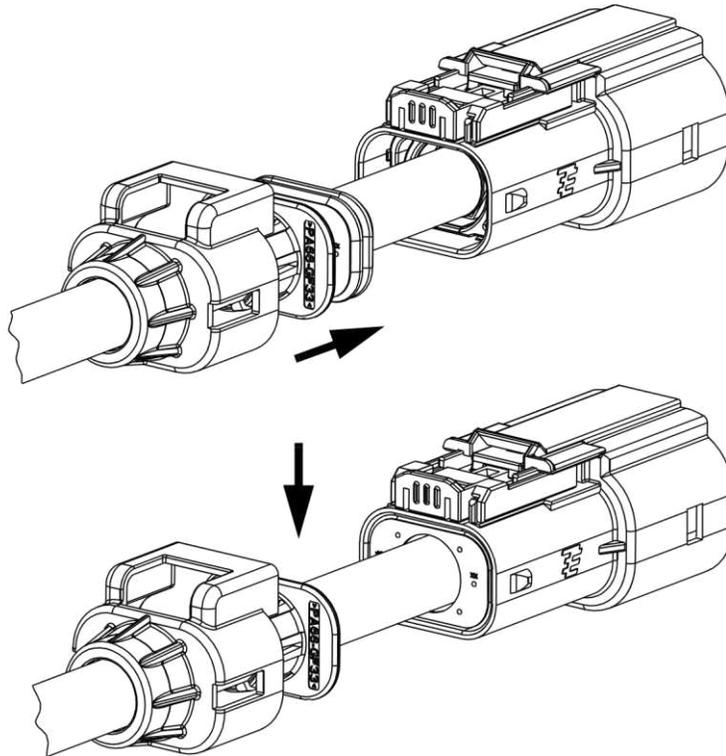

Figure 17
- 3.6.14. Slide the cable seal forward on the cable and into the cable exit end of the connector assembly until it stops against the spacer as shown in Figure 17.